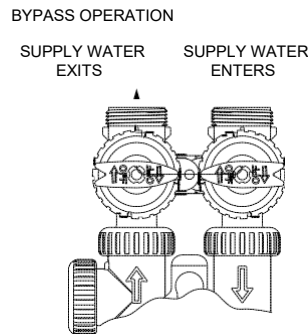

Figure 2
2. Bypass Position: The inlet and outlet handles point to the center of the bypass. The system is isolated from the water pressure in the plumbing system. Untreated water is supplied to the building. (See Figure 2)